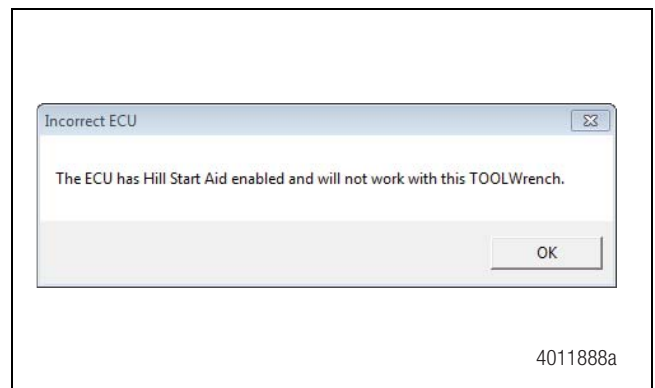

Figure 8
- B. If the ECU has Hill Start Aid Enabled, it cannot be used with this TOOLWrench. Figure 8.